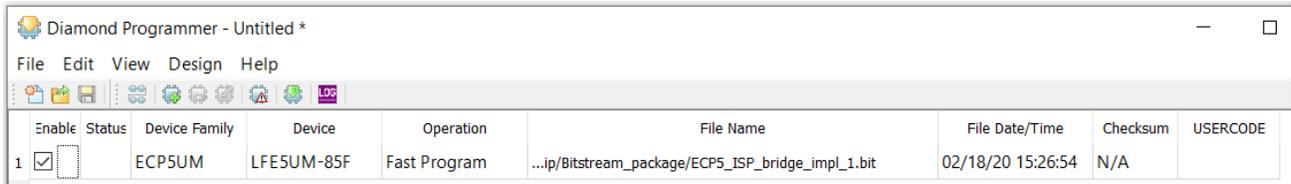

Figure 5.5. Set Up Configuration Settings for ECP5 Board
- Make sure the configuration settings for the ECP5 Board are the same as those shown in Figure 5.5.